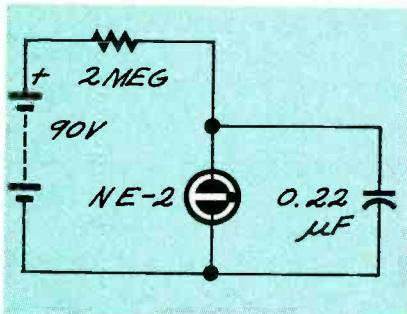

FIG. 6—NEON LAMP HAS NEGATIVE DYNAMIC RESISTANCE—the voltage across it falls while conduction is increasing. As a result, it flashes on and off.
**Adjustable output voltage.** Many modular DC-to-DC converters have an output voltage that can be adjusted from its nominal value by setting a voltage at the trim terminal, as shown in Fig. 6. The trim voltage is usually between 0 and 5 volts. Read the manufacturer's literature to determine the actual value for the converter you have.